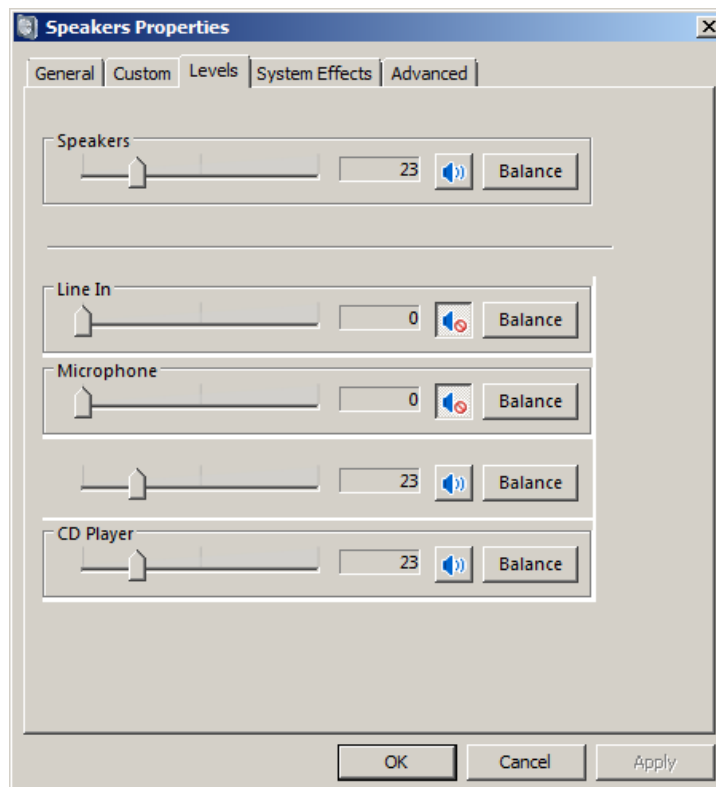

Figure 4.10 Playback channel properties – Output levels
- 3) Click on the tab 'Levels' to open the output mixer (as in Fig. 4.10). Then mute Line In and Mic channels, if exist.